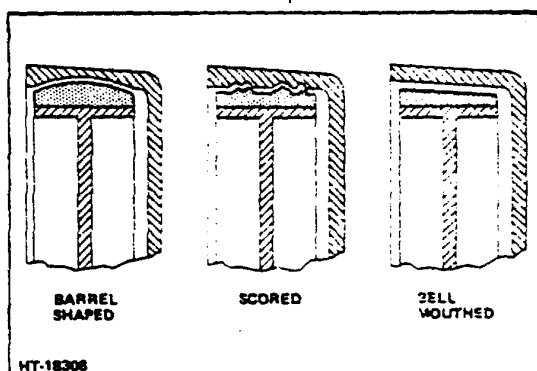

Figure 2-4. Improper Lining Wear
2. Inspect the lining wear pattern to determine if drum is barrel shaped, scored, or bell mouthed (Fig 2-4). If scoring is less than 0.010" deep the lining will wear in and seat satisfactorily after some use. Heat checked or badly scored drum should be resurfaced or replaced, depending on the extent of damage. Bell mouthed or barrel shaped drum should be refinished or replaced.